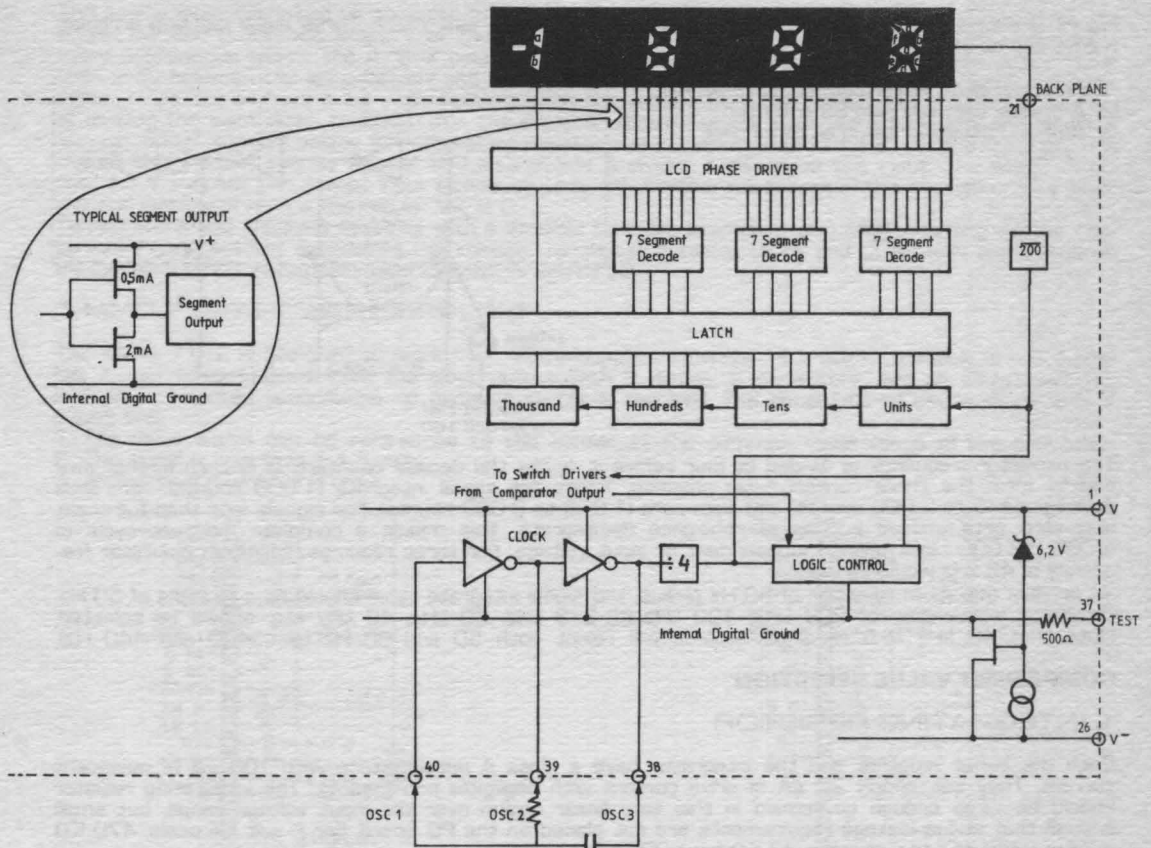

Figure 7: Digital Section 7106
Figures 7 and 8 show the digital section for the MMC 7106 and MMC 7107, respectively. In the MMC 7106, an internal digital ground is generated from a 6 volt Zener diode and a large P channel source follower. This supply is made stiff to absorb the relative large capacitive currents when the back plane (BP) voltage is switched. The BP frequency is the clock frequency divided by 800. For three readings/second this is a 60 Hz square wave with a nominal amplitude of 5 volts. The segments are driven at the same frequency and amplitude and are in phase with BP when OFF, but out of phase when ON. In all cases negligible d-c voltage exists across the segments.